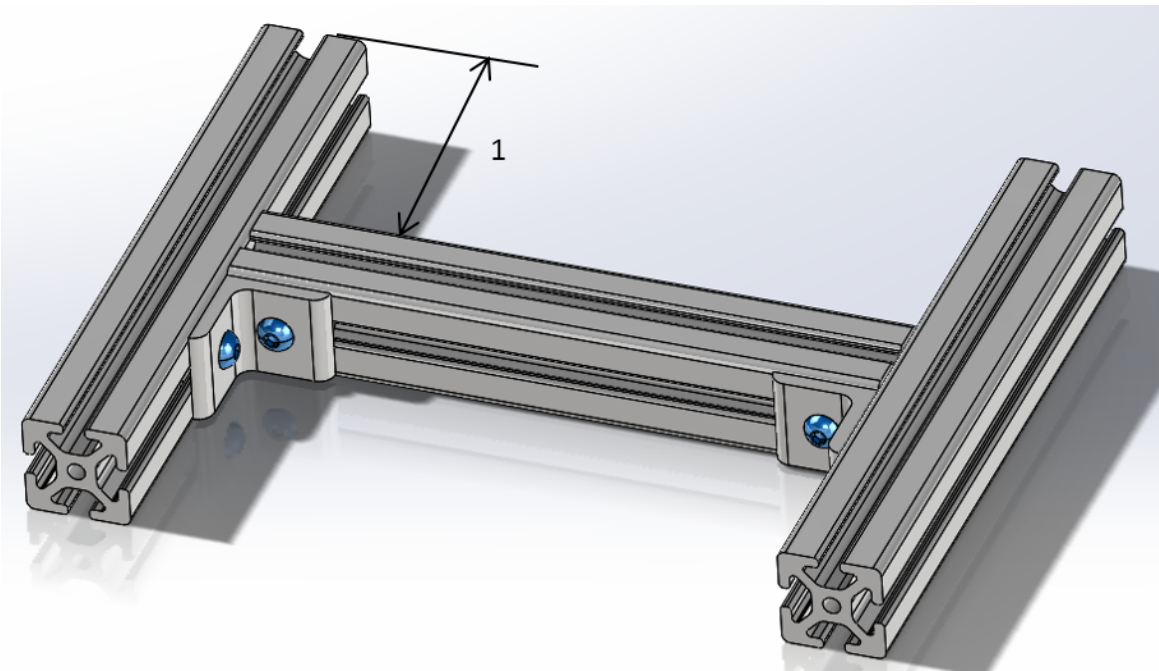

Figure 3. Assembled base of the frame
6. Use the Measuring Tool (3D printed and delivered by Shapeways) to align the horizontal tube to its specific height relative to the ends of the vertical tubes. This dimension uses side 1 of the Measuring Tool (Figure 3).
7. With the tubes for the base lined up, tighten all 4 screws with an Allen wrench (see Figure 3 for the schematic of a 90° Elbow connection).
4. With the tubes for the frame stand lined up, tighten all 8 screws with an Allen wrench (see Figure 3 for the schematic of a 90° elbow connection).